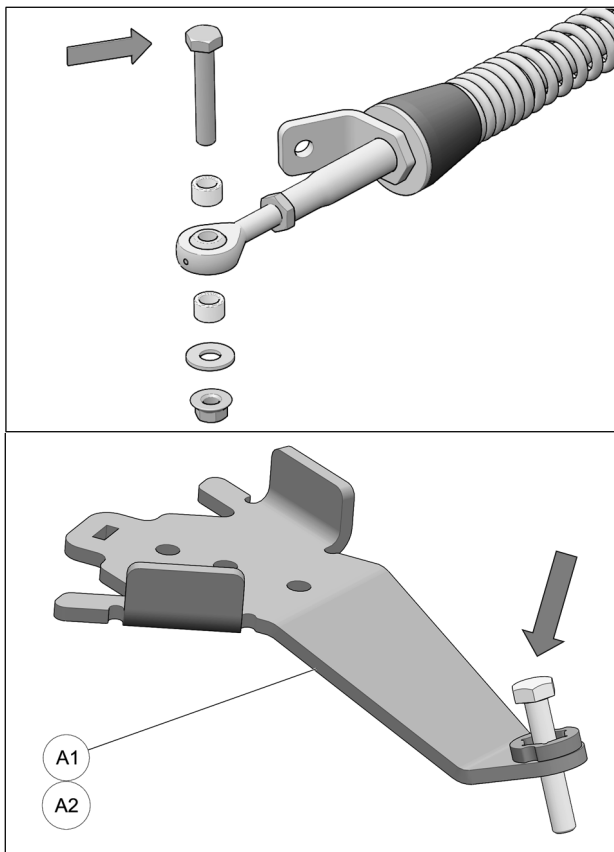

Fig. 14
4. Remove bolt, washer and bushings from front stabilizing rod end and insert bolt in front anchor bracket (A1-A2) as shown in Fig. 14